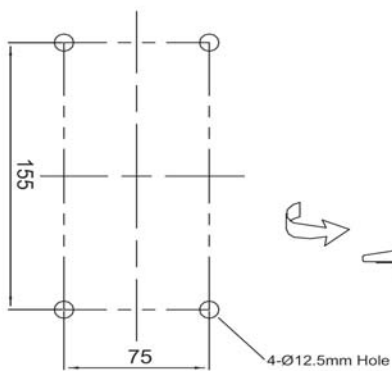

FIG.26
- E-1.** If you want to install the speed dome on the concrete wall, you need to make 12.5mm diameter 4 holes by drill like FIG. 26. (Depth 37mm)